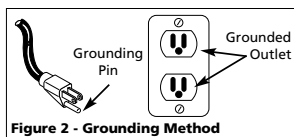

Figure 2 - Grounding Method
- This product is for use on a nominal 120 volt circuit and has a grounding plug that looks like plug illustrated in Figure 2. Make sure that product is connected to an outlet having same configuration as plug.